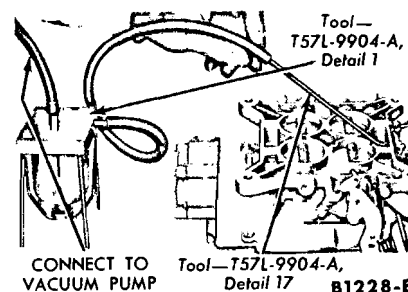

FIG. 3—Typical Autolite Carburetor Power Valve Test for Models 2100 and 4100
2. Remove the glass bowl from the fixture (Fig. 3). Fill the bowl half-full of water. Install the bowl on the fixture.
the fixture. Insert the large OD end of the wand into the tube and attach the other end of the tube to the fitting on the side of the fixture. Slip the rubber gasket (furnished with the tool) over the small OD end of the wand. Hold this end against the power valve vacuum pick-up port (Fig. 3).